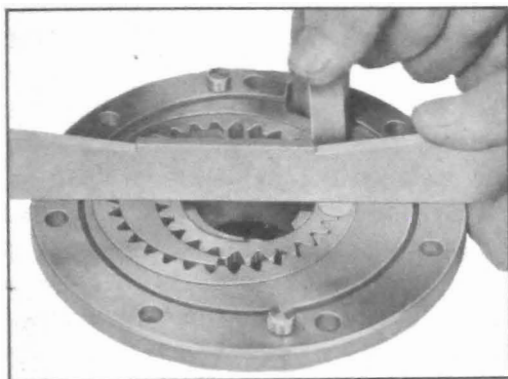

Figure 5-61—Checking Side Clearance of Gears in Pump Body
6. Place a straight edge on face of pump body and check side clearance of gears with feeler gauge. See figure 5-61. Clearance should be .001" to .0025" on front pump and .001" to .002" on rear pump.